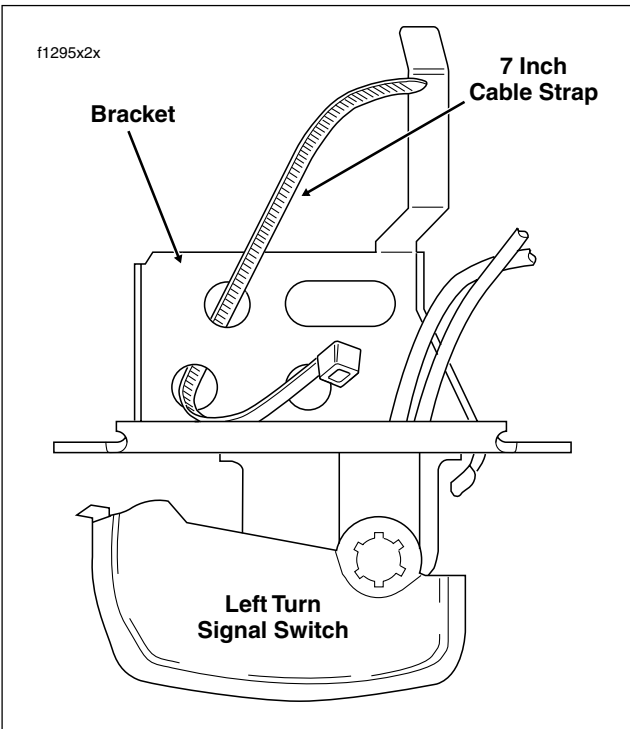

Figure 8-110. Insert Cable Strap in Switch Bracket
1. Insert tapered end of **new** 7 inch cable strap into round hole in turn signal switch bracket and then feed back through using the adjacent hole. Reserve the oblong hole for the bracket screw. See Figure 8-110.